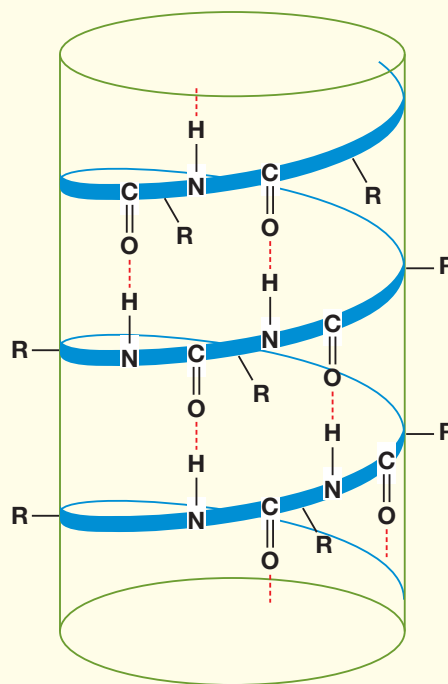

Figure 5.9 ▲
- The **secondary structure** describes the repeating patterns in the structure of sections of the polypeptide chains. X-ray diffraction methods have shown that helices and pleated sheets are common repeating structures in proteins. Fibrous proteins, such as α -keratin in hair and wool, have helical chains of amino acids held together by hydrogen bonds (Figure 5.9). Stringy α -keratin in silk fibres forms pleated sheets of parallel polypeptide chains held together side-by-side with hydrogen bonds.